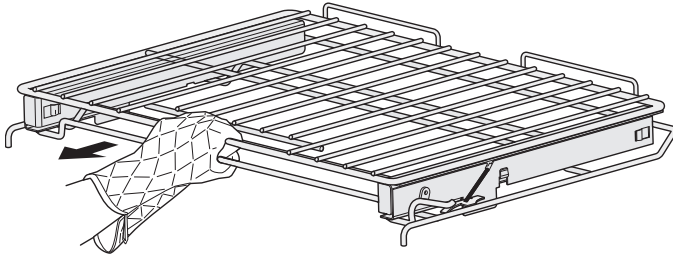

Figure 17: Pulling Glide rack to stop position
2. When the lock is released, pull the rack towards you until it stops (Figure 17).